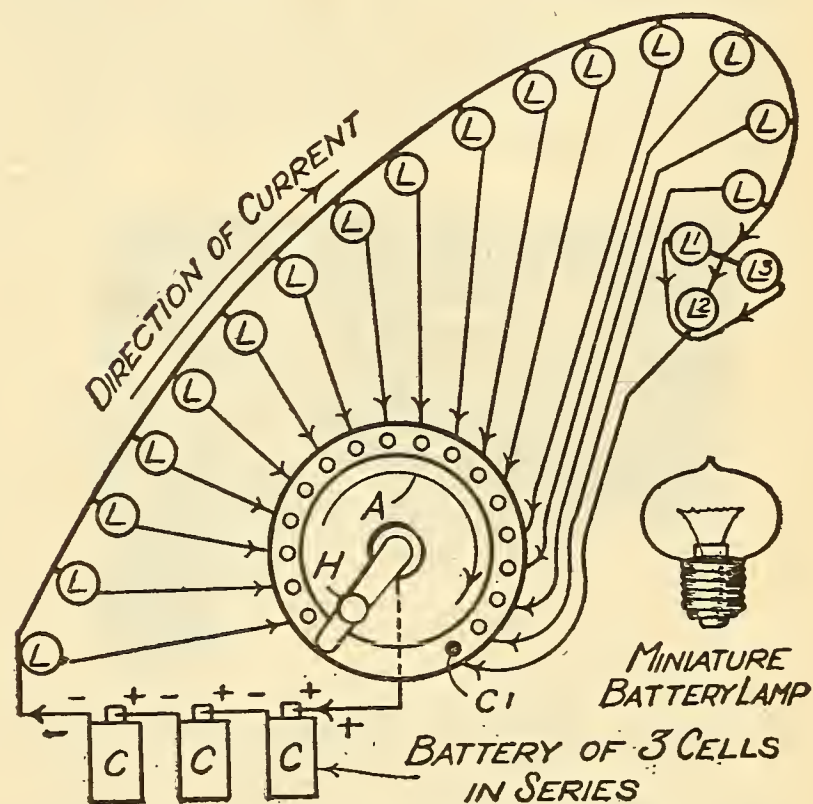

FIG. 1. HOW THE SKYROCKET IS PRODUCED
A simple diagram, Fig. 1, shows how the skyrocket effect is produced. The lamps of the set piece which is to indicate the path of the rocket are marked (L) while (L1) (L2) and (L3) are